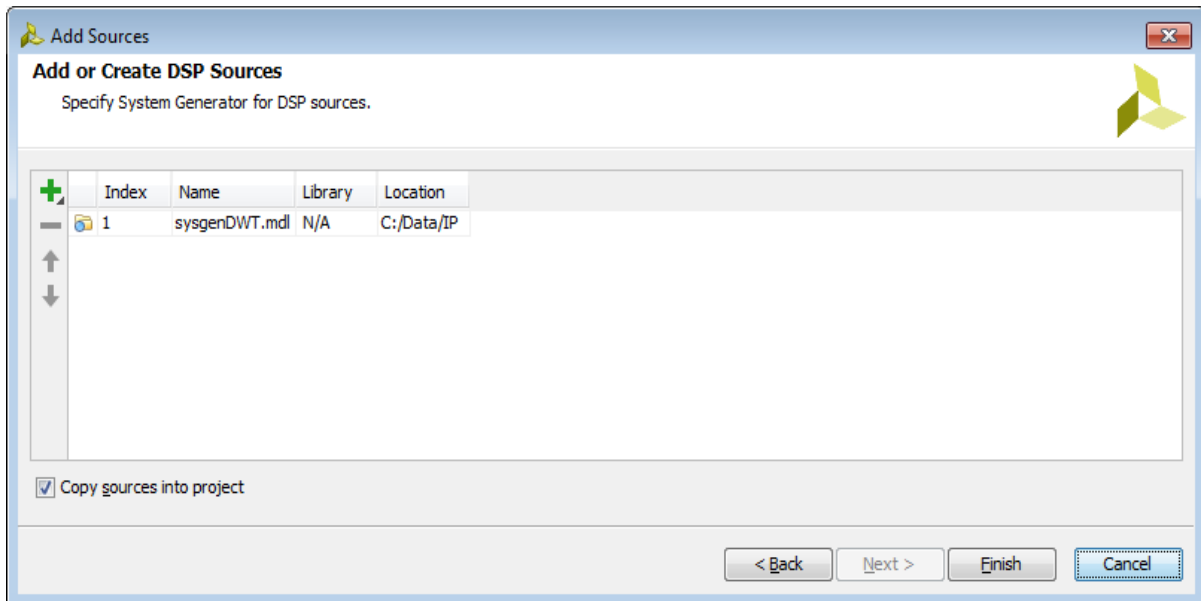

Figure 3-15: Add Sources Wizard—Add or Create DSP Sources dialog box
3. In the Add or Create DSP Sources page (Figure 3-15), set the following options, and click **Finish**.
3. In the Add or Create DSP Sources page (Figure 3-15, page 66), Click on the '+' sign, and select the **Create Sub-Design** command to launch System Generator to define a new DSP module.